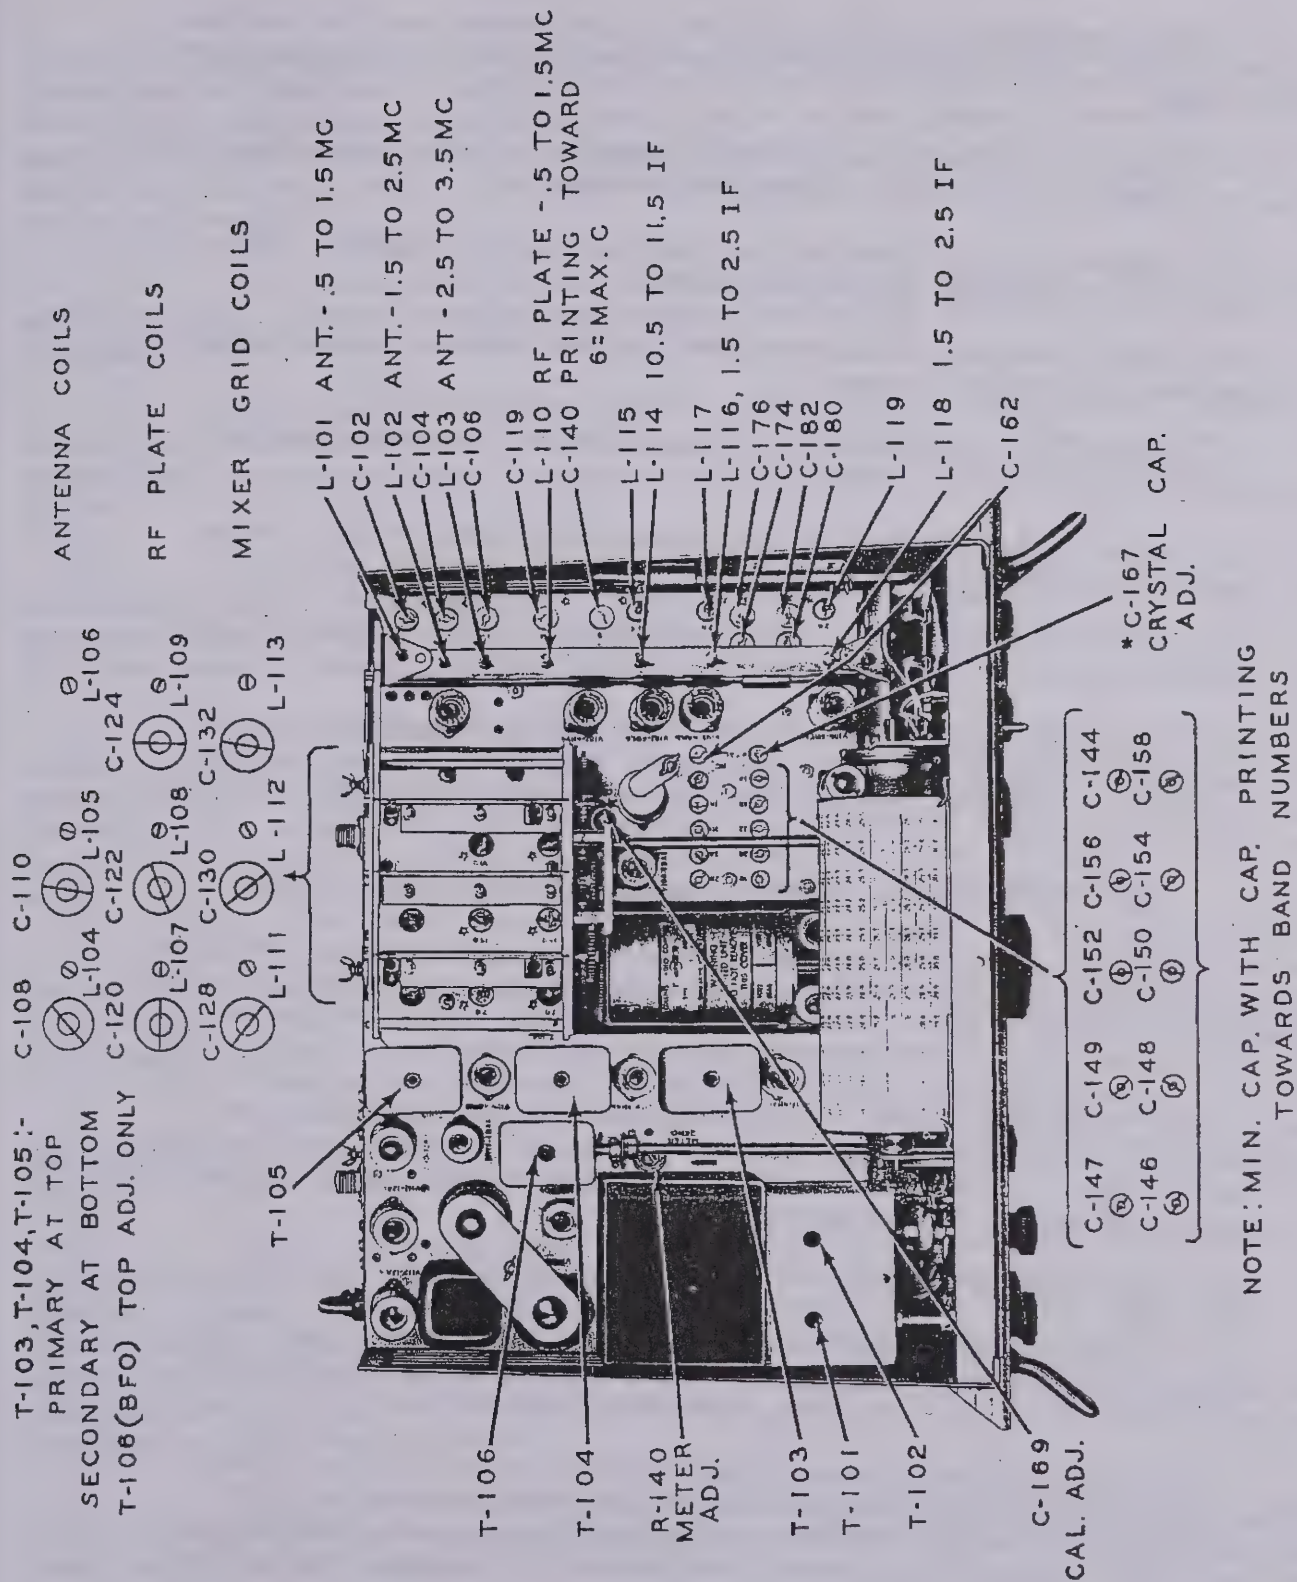

Figure 5-1. 51J-3 Alignment Adjustments
(c) In all of the following adjustments, peak the trimmers if the indicated voltage is not more than 2 volts. If it is more than 2 volts, detune trimmer toward minimum capacitance, until the voltage reads 2. See figure 5-1.
- (h) If the BFO PITCH knob has never been off the shaft during the life of the receiver, align the BFO as follows. Turn BFO on. Set the line on the BFO PITCH knob at the fiducial mark on the panel. Adjust core in T106 (figure 5-1) to zero beat.
(1) Use an oscilloscope and a frequency-modulated signal generator having a sweep rate of four cycles per second, a frequency excursion of about 20 kc and a carrier frequency between 1.5 and 3.5 mc.
(2) Line up the crystal filter PHASING control knob with the panel mark and with the mid-range position of the phasing capacitor. To accomplish this, with the aid of a flashlight look into the right-hand hole in the top of the crystal filter cover (See figure 5-1) in order to see the